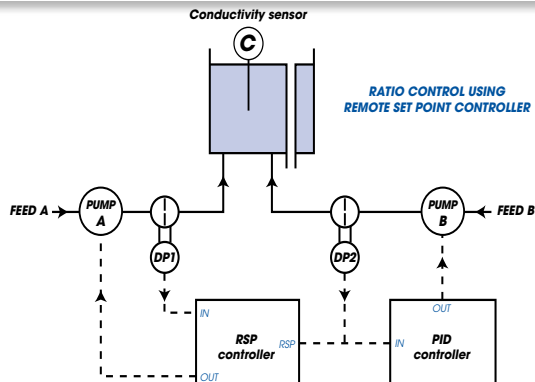

Fig 1: Ratio control of two flows
- > Ratio control of two flows (Fig 1)